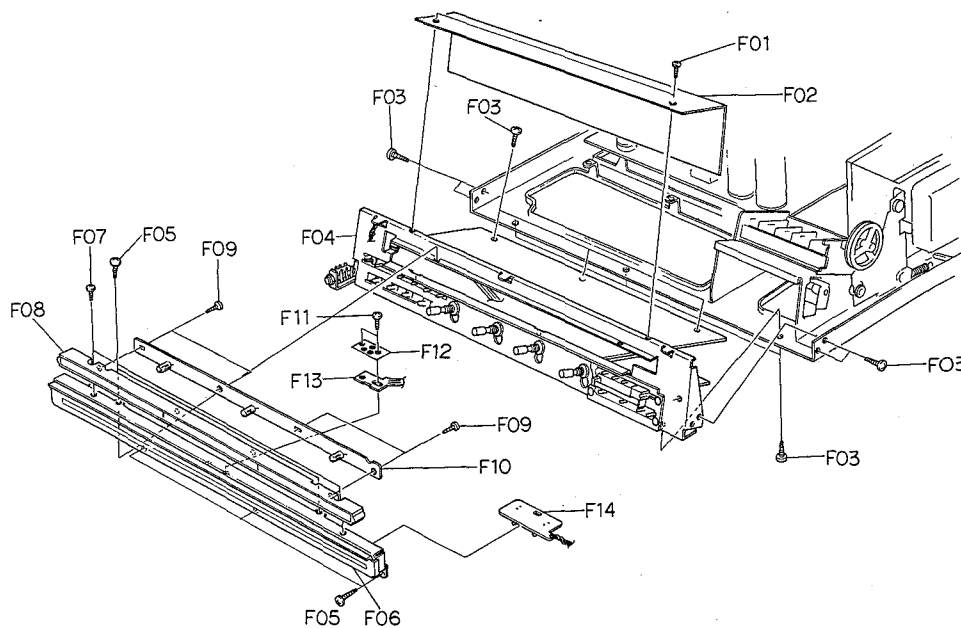

Fig. 3.3
Refer to Fig. 3.3. Remove Top and Bottom Covers referring to items 3.1 and 3.2.
Refer to Fig. 3.3. Remove Front Chassis Ass'y referring to item 3.9.
Refer to Fig. 3.3.
Refer to Fig. 3.3. Remove Scale Holder Ass'y referring to item 3.10.